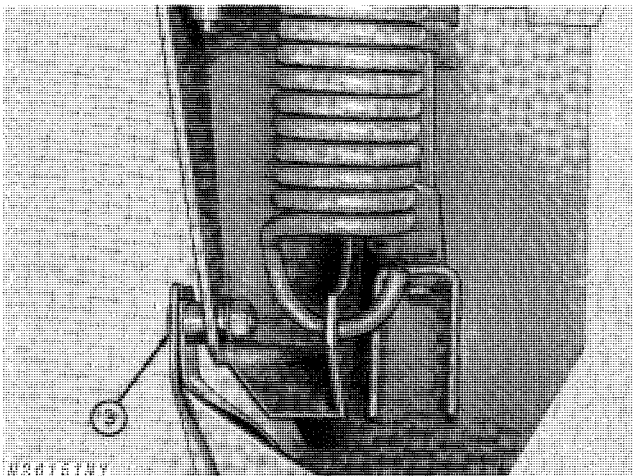

Fig. 104-Installing Inner Gatherer Points
3. Attach inner gatherer point to inner gatherer sheet (both sides) with one 7/16 x 2-inch round head bolt, spacer, 15/32 x 1-1/4 x .105-inch flat washer, lock washer, and nut (Fig. 104).